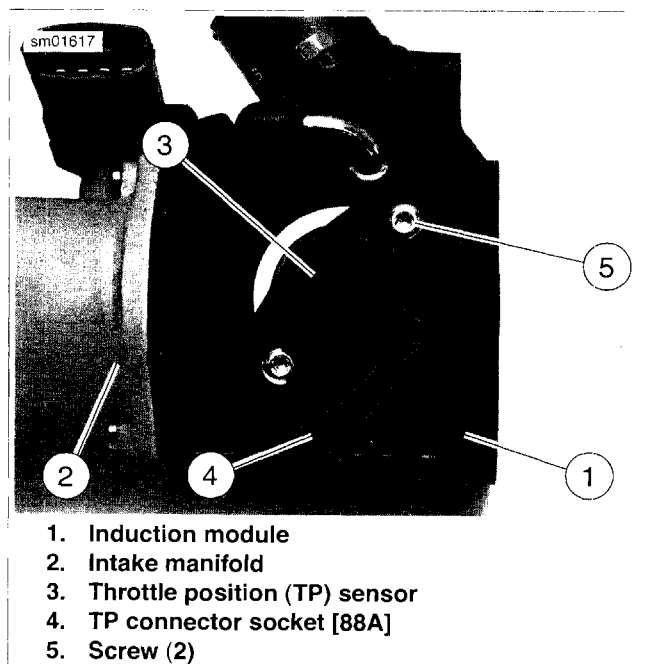

Figure 4-27. Throttle Position (TP) Sensor Removal (XL Models)
3. See Figure 4-27. Unplug TP sensor harness connector [88B] from connector socket [88A] (4). Cover both connectors with tape.
4. Remove two screws (5) and detach TP sensor (3) from induction module (1).
- See Figure 4-27. Note orientation of TP sensor (3) relative to induction module (1) body; connector socket is at approximately the 7 o'clock position, facing toward intake manifold (2).